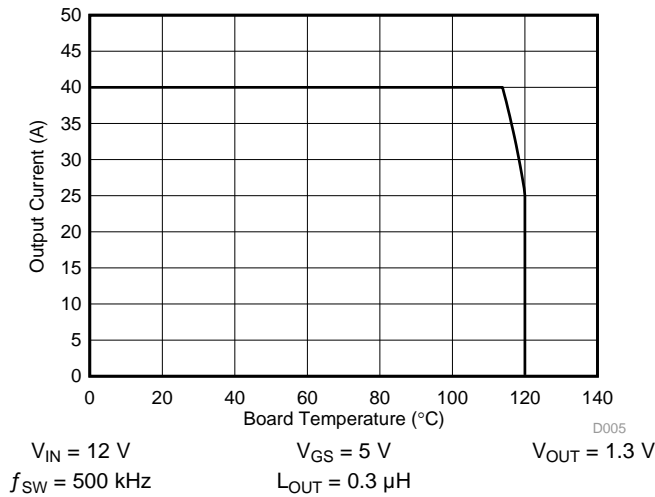

图 3. Typical Safe Operating Area (SOA)
$T_J = 125^\circ\text{C}$ , unless stated otherwise. The typical power block system characteristic curves and 图 3 are based on measurements made on a PCB design with dimensions of 4 in (W)  $\times$  3.5 in (L)  $\times$  0.062 in (H) and 6 copper layers of 1-oz copper thickness. See Application and Implementation section for detailed explanation.
The SOA curves in the CSD86356Q5D data sheet provides guidance on the temperature boundaries within an operating system by incorporating the thermal resistance and system power loss. 图 3 outline the temperature and airflow conditions required for a given load current. The area under the curve dictates the safe operating area. All the curves are based on measurements made on a PCB design with dimensions of 4 in (W)  $\times$  3.5 in (L)  $\times$  0.062 in (T) and 6 copper layers of 1-oz copper thickness.